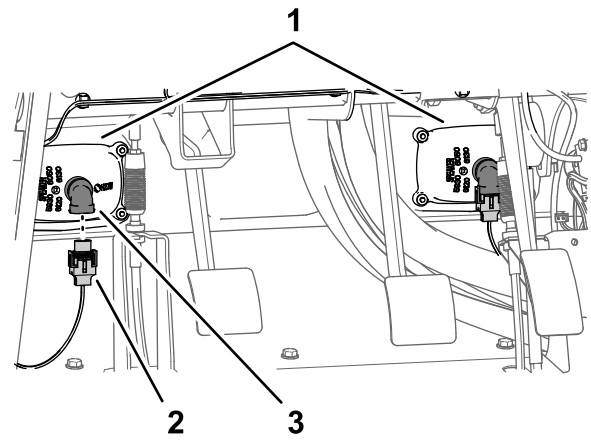

Figure 215
- Connect the 2 electrical connectors (2-socket) of the machine wire harness from the 2-pin connectors of the left and right headlights (Figure 215).
- Align the inner-fender shroud to the left, upper- and left, lower-frame tubes (Figure 215).